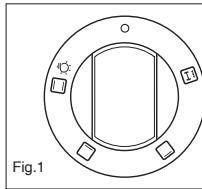

Fig.1
**Oven commutator knob (fig. 1).**